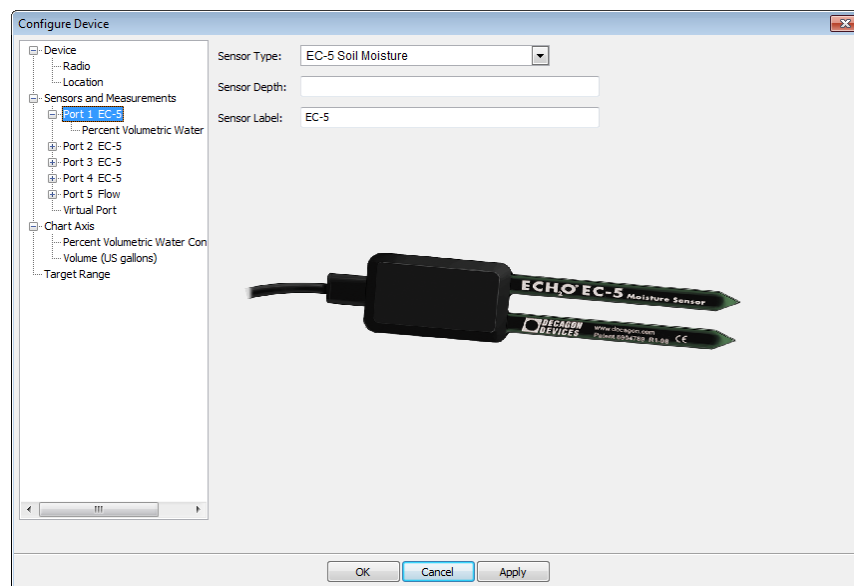

Figure 6. The Configure Device screen.
- The “Configuration Device” window will appear (Figure 6).